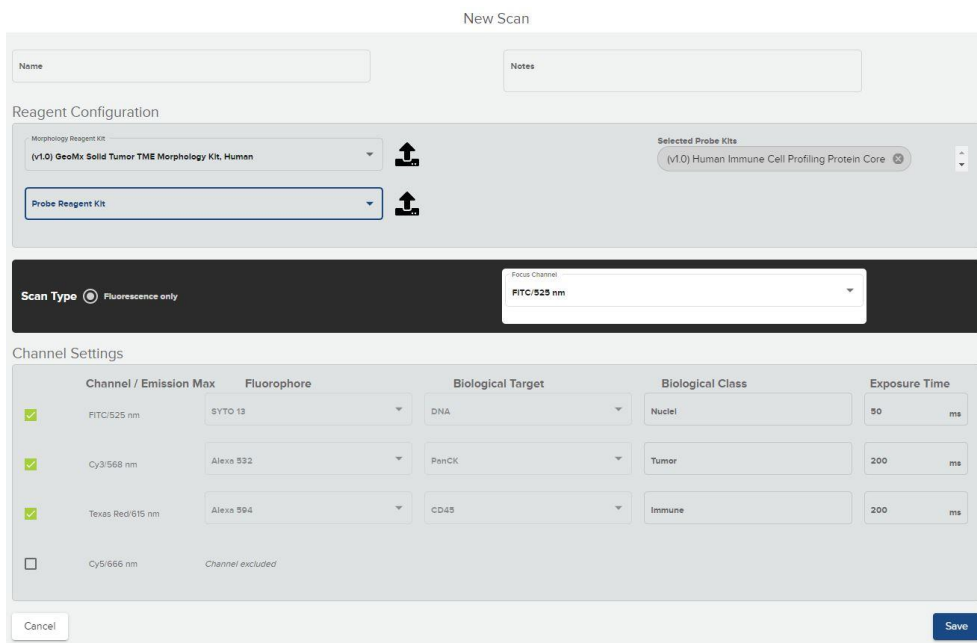

Figure 57: Scan Parameters
2. The Scan Parameters window opens (see Figure 57). Proceed to fill in scan parameters following the instructions in Scan Parameters on page 31.